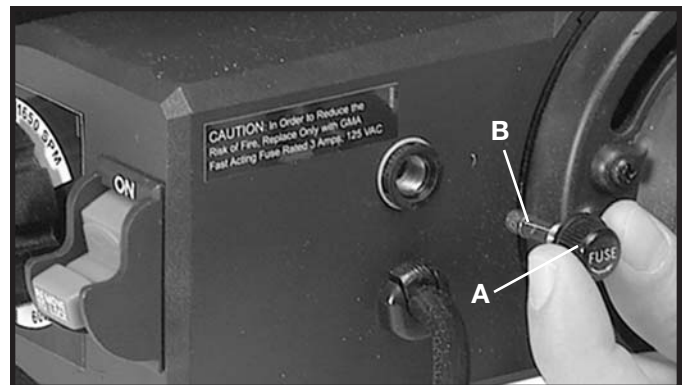

Fig. 27
A fuse holder (A) Fig. 27, and fuse (B) are located at the rear of the machine and should be removed and checked if the machine does not operate. If the fuse (B) is bad, replace it with a 3 amp fast blow fuse.